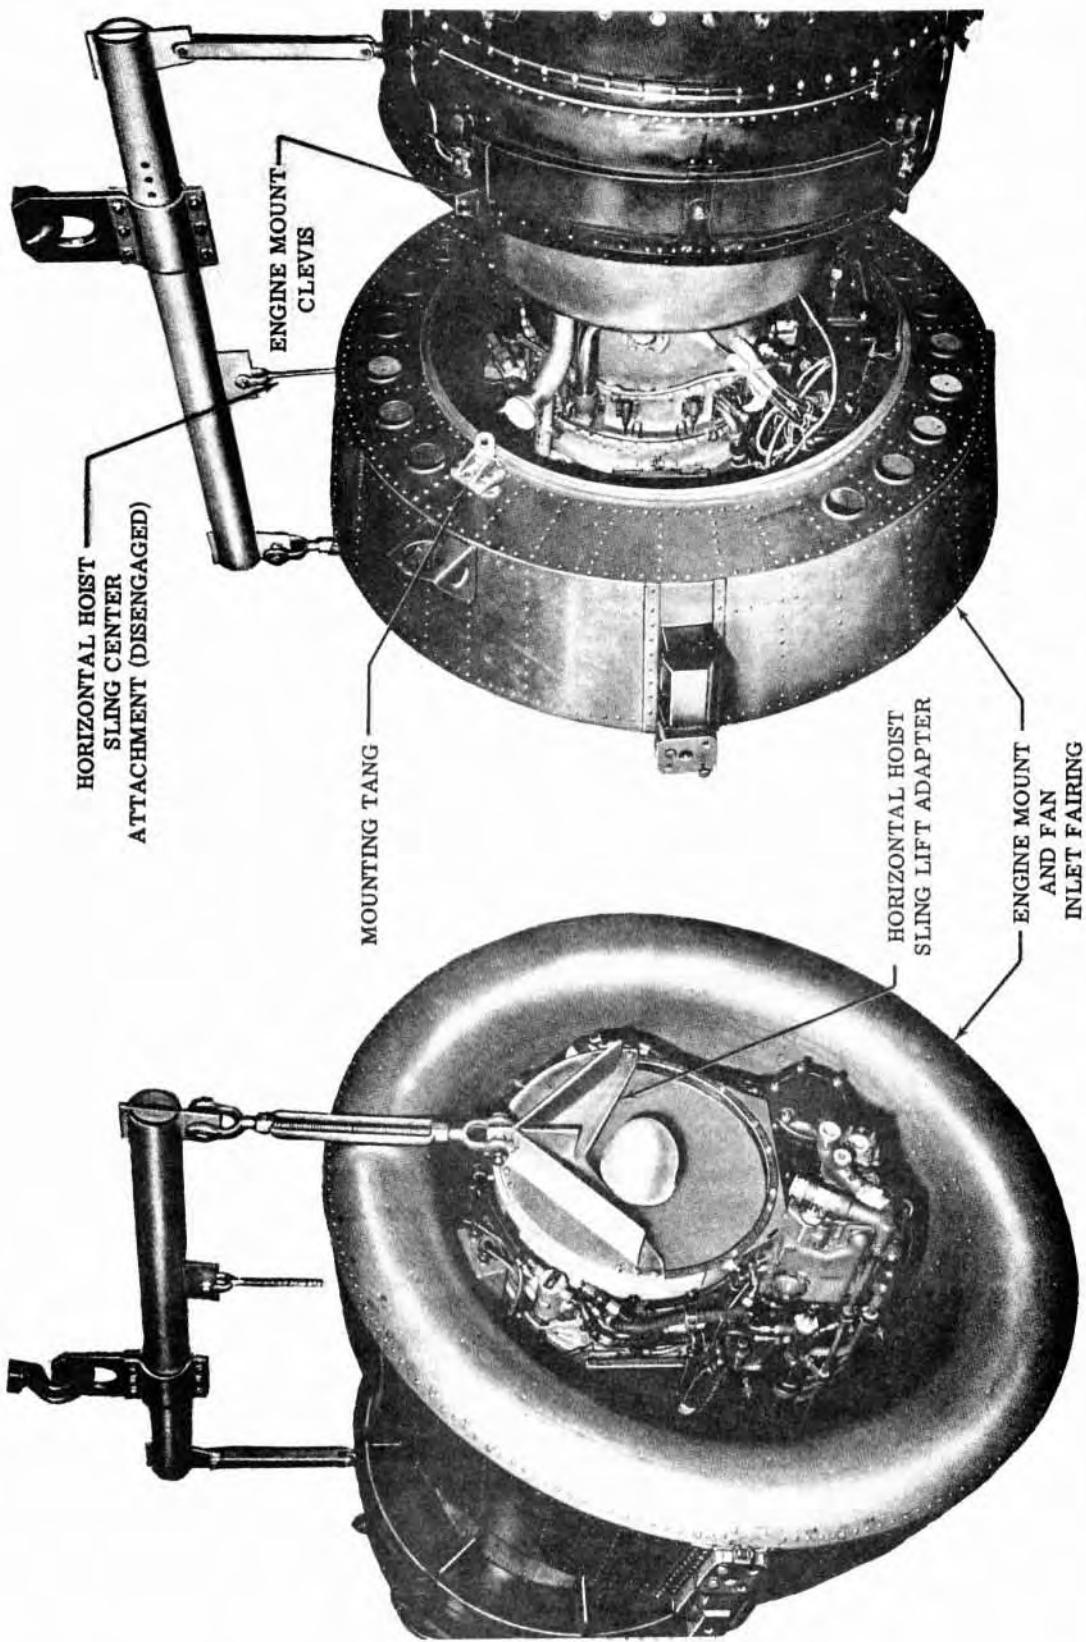

Figure 6-8. Engine Mounted On Sling
- A. Engine mount removal (see figures 6-8 and 6-9.)